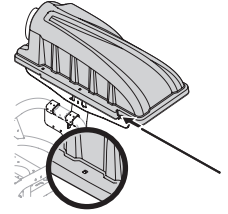

Figure 16
7. Slide the hinge pin (711-05079) into the hole located on the mounting tab, as shown in Figure 16. Use the cut-out windows (see inset in Figure 16) to line up the hinge pin on the other side and push pin all the way in until it reaches the end-stop. At this point the pin clips into place and is secured by a tab in the bagger cover.